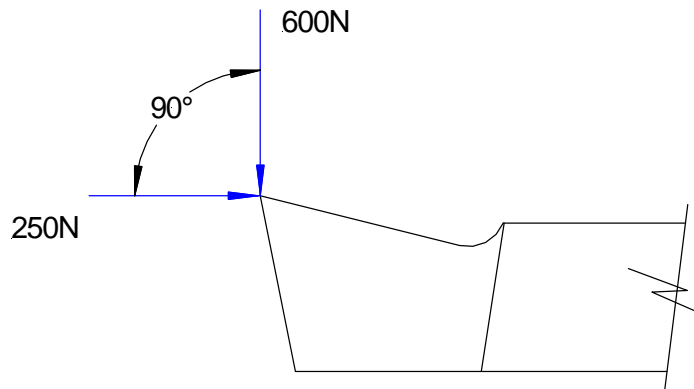

figure 1.4.4
- (h) *fig. 1.4.4* Shows the Vertical force 600 N and horizontal force 250 N acting on a lathe tool point. Calculate the **resultant** force and its angle to the **horizontal**.